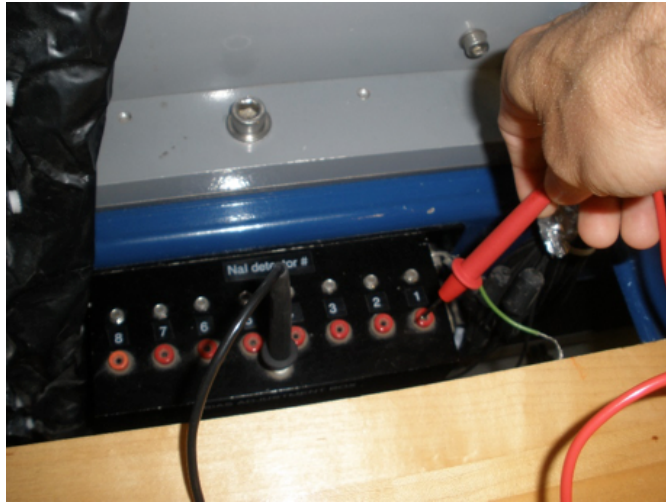

Figure 32. Insert the multimeter probes into the bias detector box to measure the voltage. Black to white. Red to red
8. Use a multimeter. Set it to DC current in the millivolt range. Read the voltage in the bias adjustment box. The multimeter's black probe goes into the white fitting and the red probe into the appropriate red fitting for the detector being examined (Figure 32).